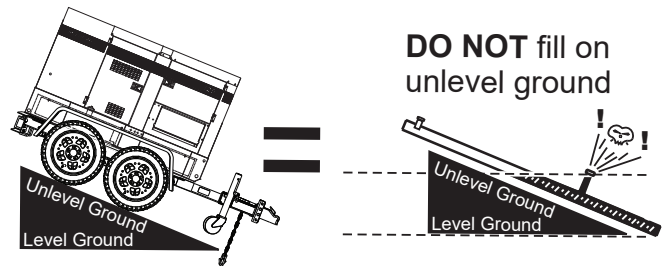

Figure 37. Only Fill On Level Ground
1. **Level Tanks** — Make sure fuel cells are level with the ground. Failure to do so will cause fuel to spill from the tank before reaching full capacity (Figure 37).